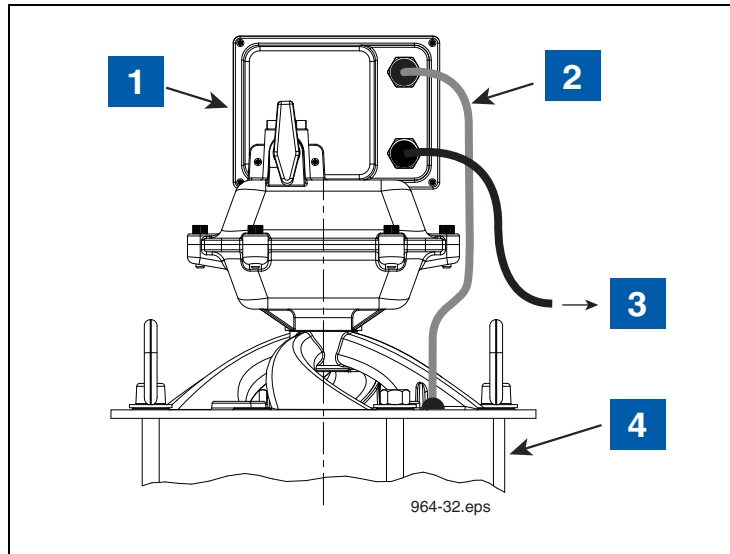

Figure 28. Attaching Transmitter Cable To CCVP
9. Attach the connector end of the CCVP cable to the Carbon Canister's Vapor Polisher connector (see Figure 28).
**LEGEND FOR NUMBERED BOXES IN Figure 28**